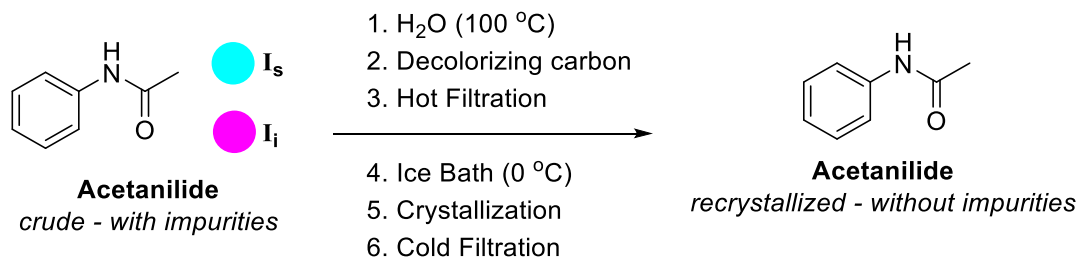

Figure 5. Recrystallization of acetanilide overview – *Purpose section of lab notebook*
- **Purpose:** one-sentence summary of the lab goals and the recrystallization scheme (**Figure 5**)